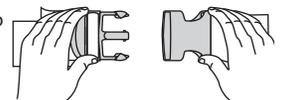

Fig. 3
1. Put the shoulder support on using the clip. (Fig. 3).